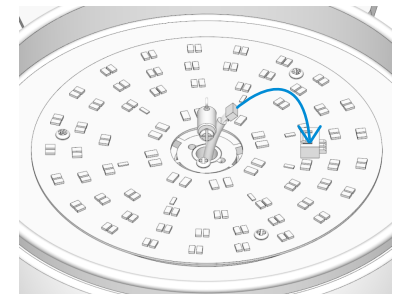

Fig. 3.2
3.2 Connect the wire plug to the light kit's terminal block as demonstrated in Fig. 3.2.